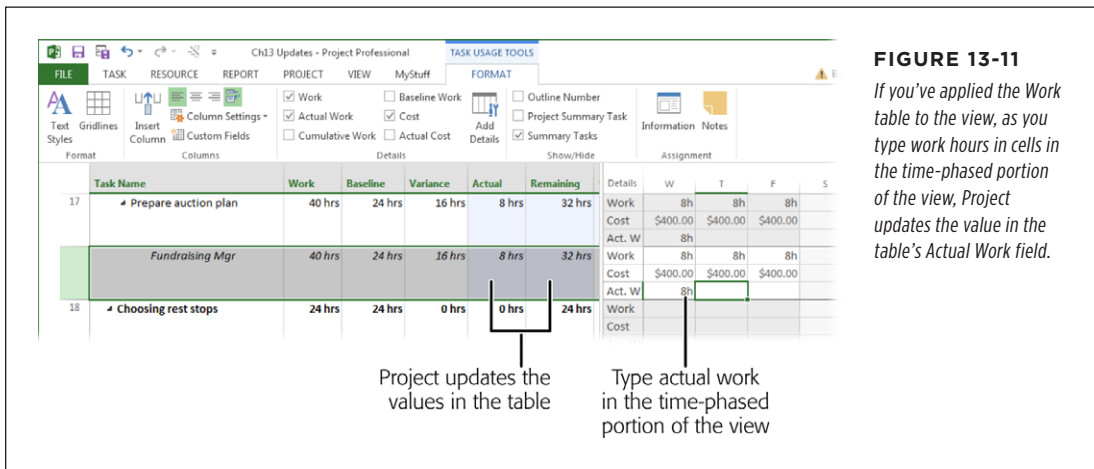

FIGURE 13-11
6. In the Act. Work field in the assignment’s row, type the actual work values in the appropriate time periods, as shown in Figure 13-11.